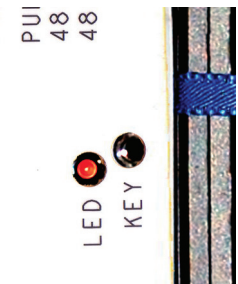

Fig. 5.5
8. The green LED indicator will go out and then begin to blink red. Press the button again before the LED blinks three times. The LED will glow red continuously (about 2 minutes) while zeroing is taking place (Figure 5.5). After zeroing is complete, the LED will again glow green.